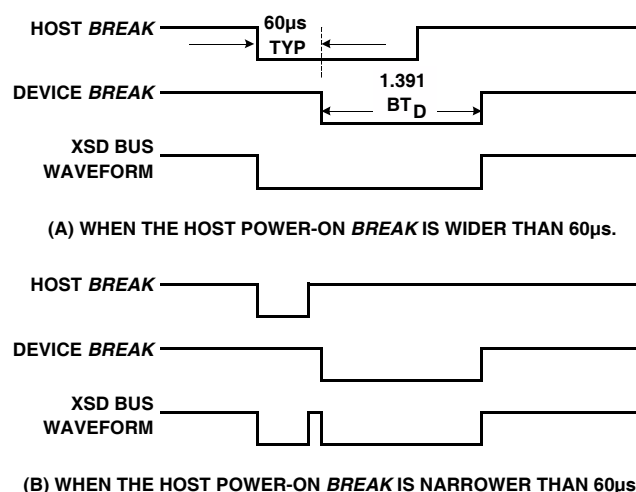

FIGURE 3. POWER-ON BREAK SIGNAL TO WAKE-UP THE ISL6296 FROM SLEEP MODE
Note that the ISL6296 will initiate the power-on sequence without waiting for the power-on 'break' signal to return to the high state. If the host sends an initial 'break' pulse wider than 60µs, the device-ready 'break' returned by the ISL6296 will likely be merged with the pulse sent by the host and, therefore, may not be detectable. Figure 3 illustrates the waveforms during the Power-on Reset. Figure 3 (A) represents the case when the power-on 'break' rising edge occurs after the device starts sending the 'break'. Figure 3 (B) represents the case when the power-on 'break' finishes before the device sends its 'break'. The device break signal is always 1.391 x of the device bit-time (BT, see XSD Bus Interface section for more details). Either case in Figure 3 will wake up the device successfully if the device is in the sleep mode.